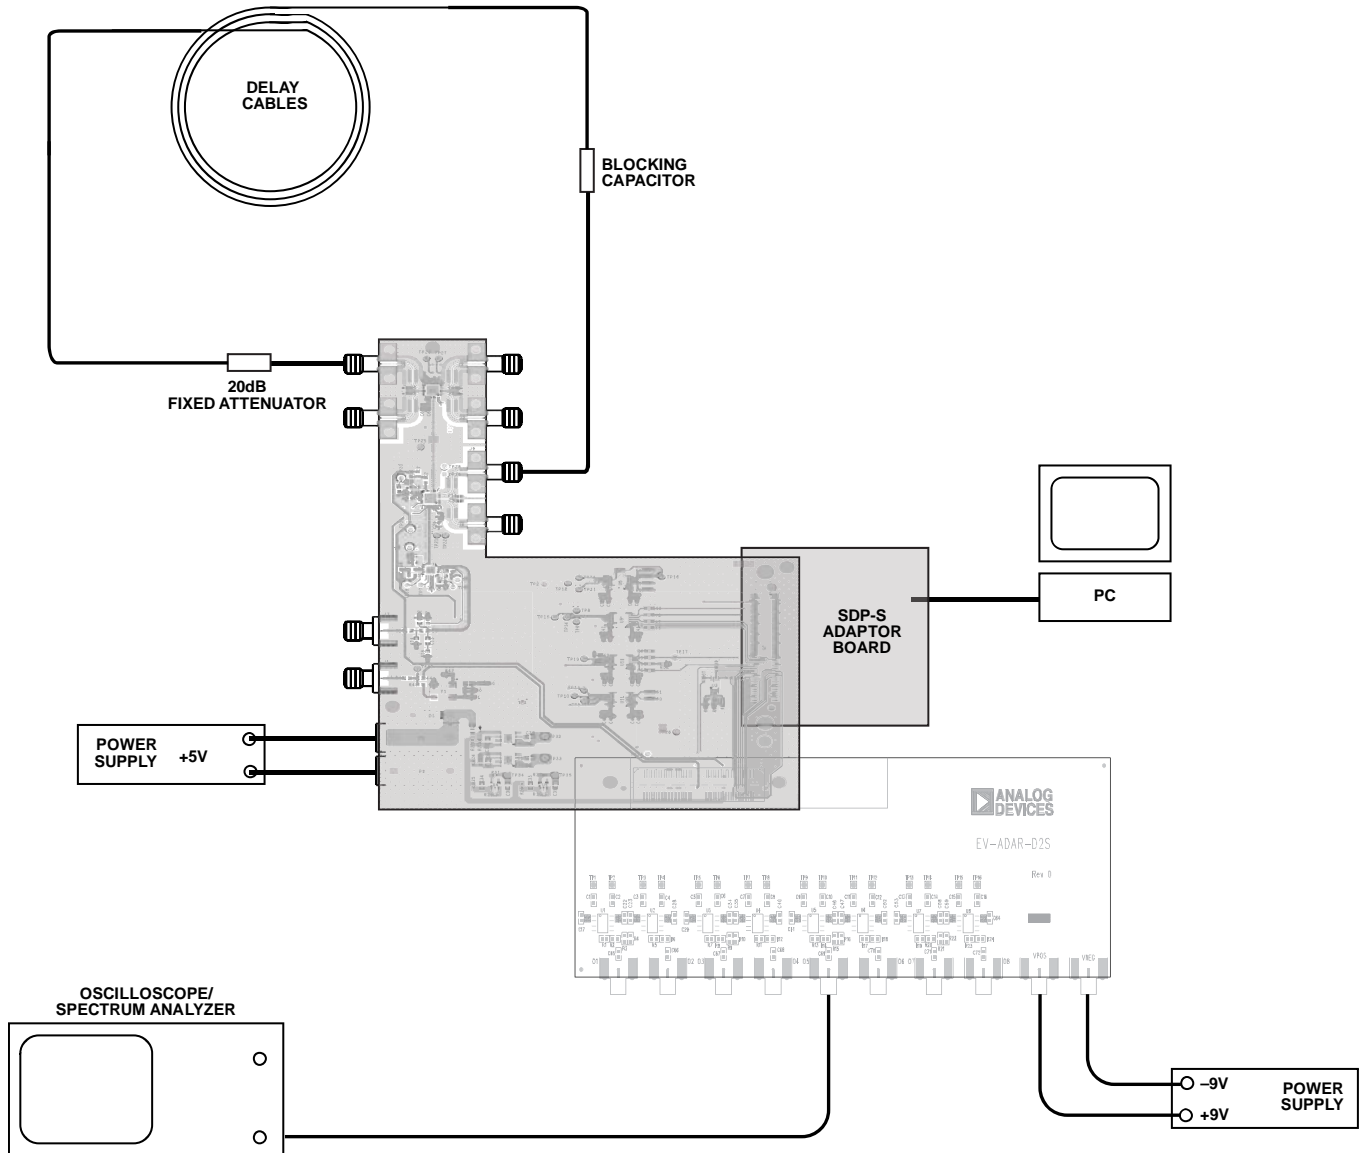
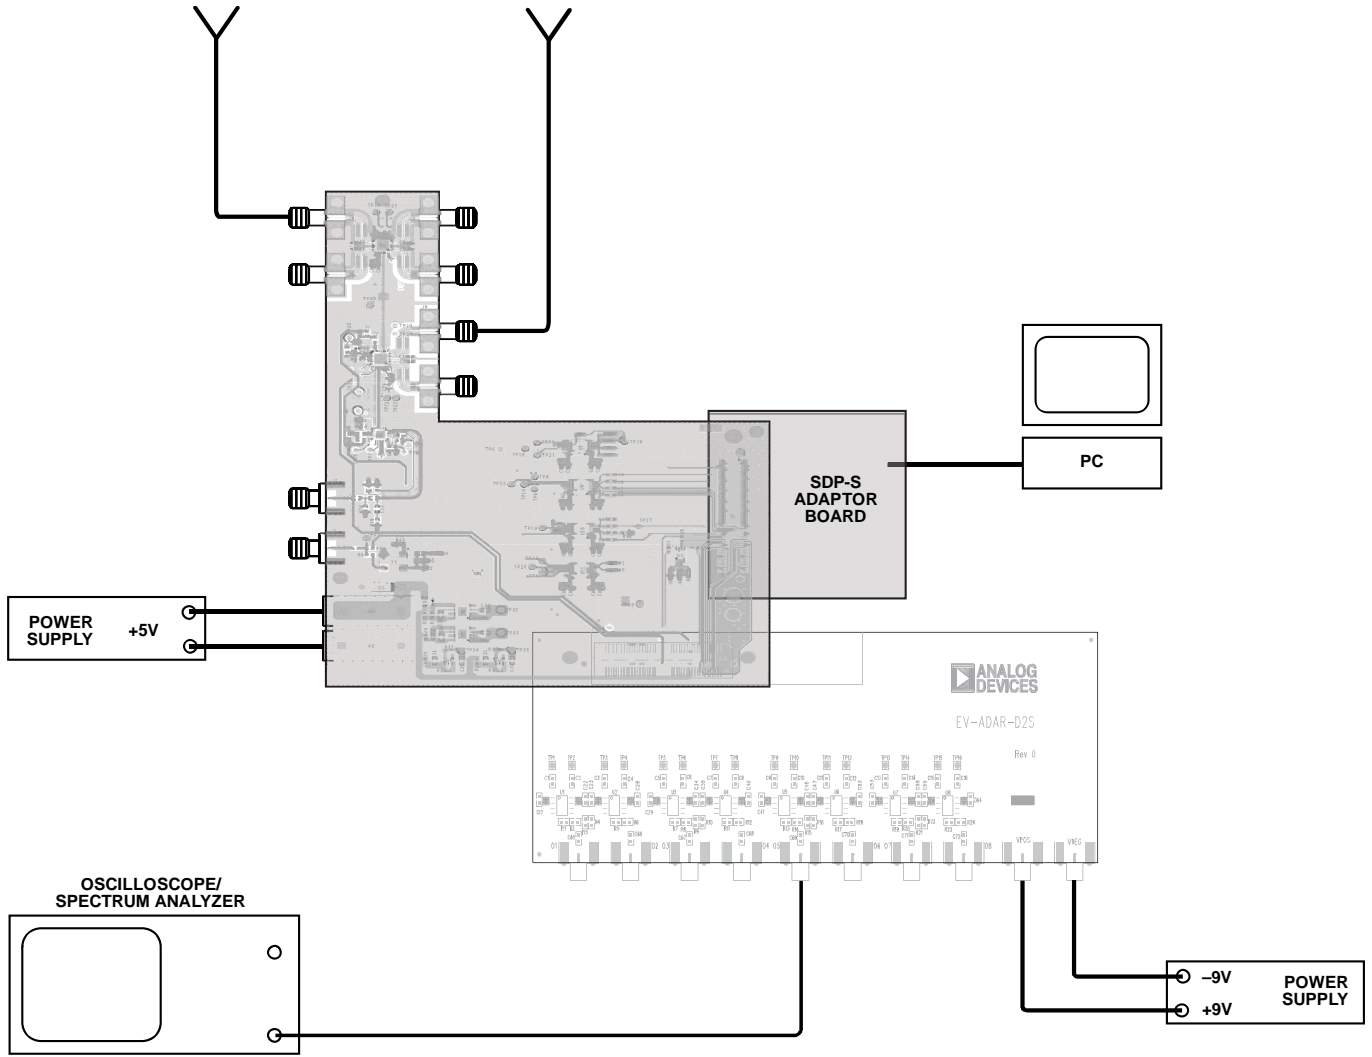

Figure 8. Typical Evaluation Setup with Cables
Figure 9. Typical Evaluation Setup with Antenna
11. In the **ADF5901 Controls** tab, click **Initialize ADF5901** to power up and calibrate the ADF5901. See Figure 8 and Figure 9 for the typical setups.